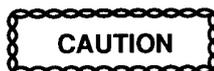

**Figure 73 Removing Delivery Valve Holders and Springs**
- bb.** Remove the delivery valve holder locking plates and then loosen the delivery valve holders using the socket wrench (Table 3, Serial 29). Remove the delivery valve holders and the delivery valve springs (Figure 73).